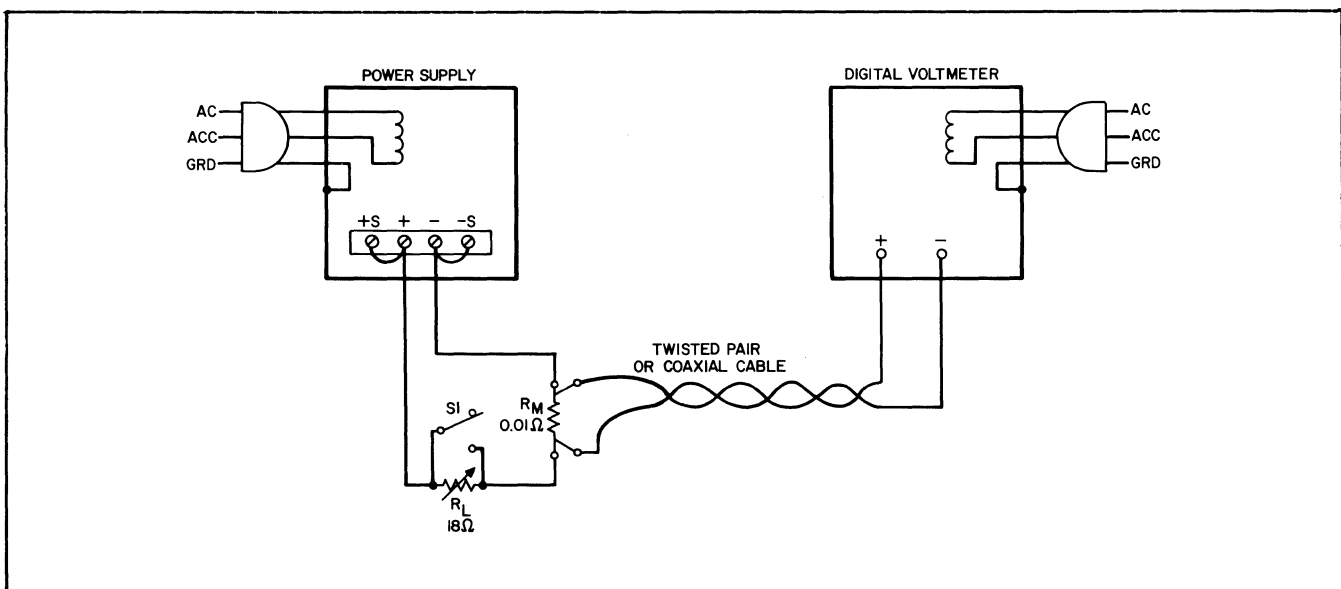

Figure 5-7. Constant-Current Test Setup
- Connect test setup shown in Figure 5-7. Set R_L to minimum resistance initially.
- Connect test setup shown in Figure 5-7.
- a. Connect test setup shown in Figure 5-7.